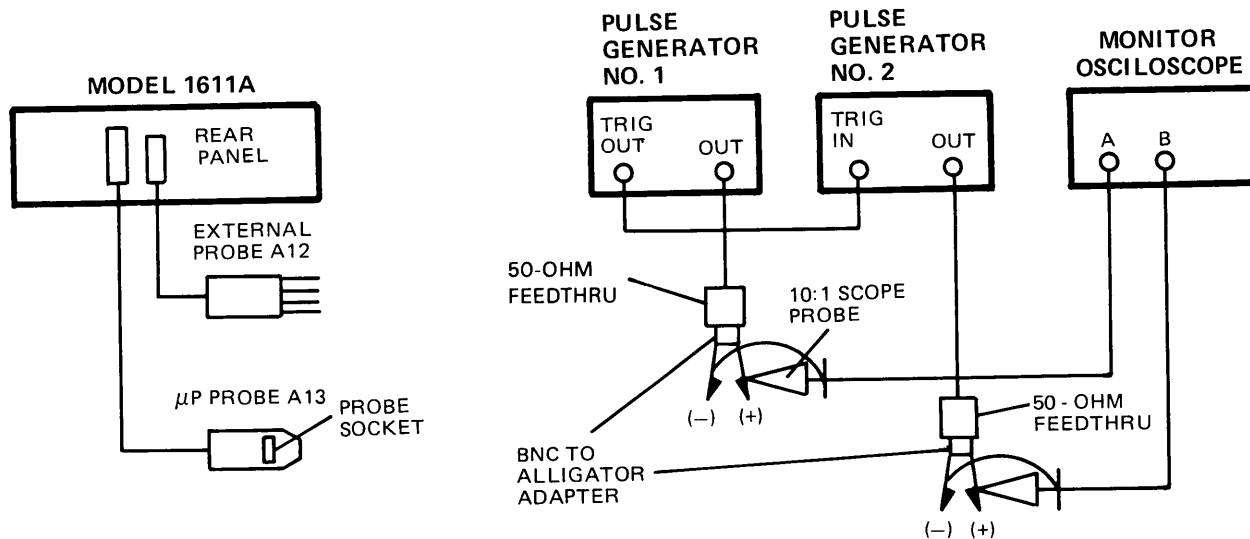

Figure 4-6. Address Lines Test Setup
- a. Connect test equipment as shown in figure 4-6.